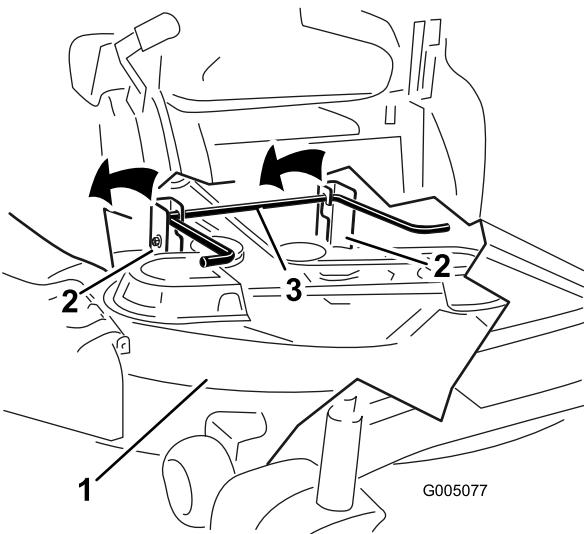

Figure 46
- Lift the mower deck and hanger brackets clear of the rear lift rod and lower the mower carefully to the ground (Figure 46).
5. Lift the rear of the mower deck and guide the hanger brackets over the rear lift rod (Figure 46).